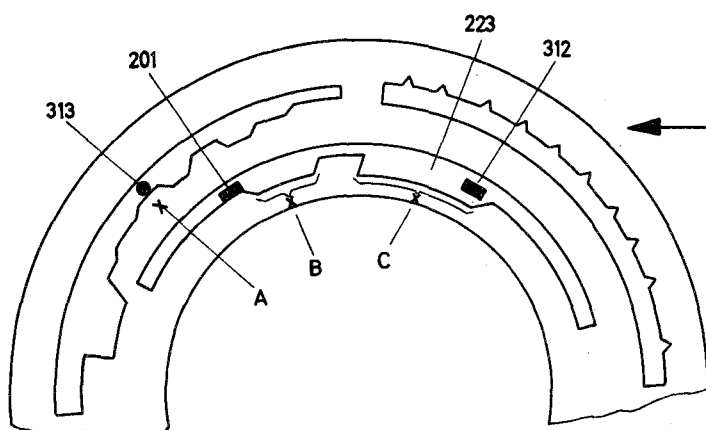

Fig. 35a
1. In the Section 3a (Escapement Mechanism), the fact has already been mentioned that two selectively operable escapement-levers are associated with the star wheel. Therefore, the shutter speed setting ring of the new shutter model has to cooperate with these two levers. For this purpose the speed setting ring as shown in Figs. 35a and 35b on Sheet 83 has been provided with a cam slot 223.
The shutter speed setting ring used in the case of Table 1 is shown in Fig. 35a; the escapement 00381-G20 was used in connection with this setting ring.
The shutter speed setting rings shown in Figs. 35a and 35b differ at the points A, B and C.
When ordering setting rings, please state which design (Fig. 35a or Fig. 35b) is involved.